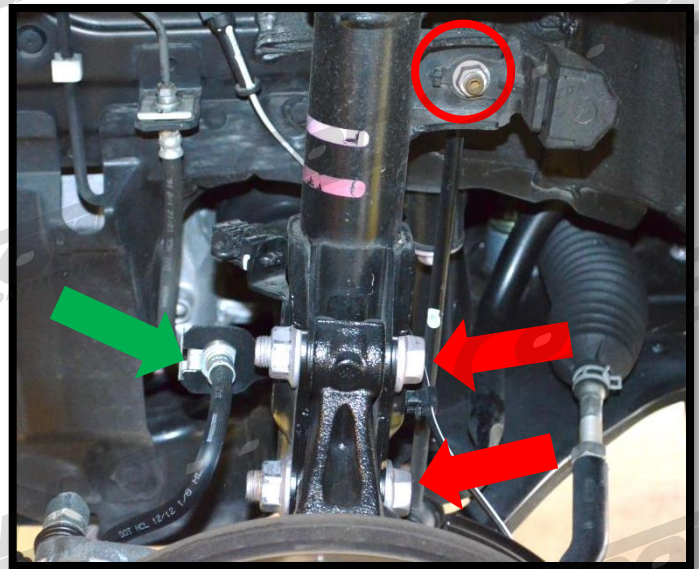

Figure 3i
- j) Pull the spindle up into the strut. Insert the 19mm bolts and nuts. Torque to 75ft-lbs (Figure 3i).
- k) Re-install the sway bar end link. Torque the 14mm nut to 25ft-lbs (Figure 3i).
- l) Place the brake line back into the strut bracket and replace the clip (Figure 3i).
j) Pull the spindle up into the strut and line up the holes. Insert the 19mm bolts and nuts. Torque to 75ft-lbs (red arrows in Figure 3i).
k) Re-install the sway bar end link. Thread on the 14mm nut and torque to 25ft-lbs (Figure 3i).
l) Place the brake line back into the strut bracket and replace the clip (green arrow in Figure 3i).